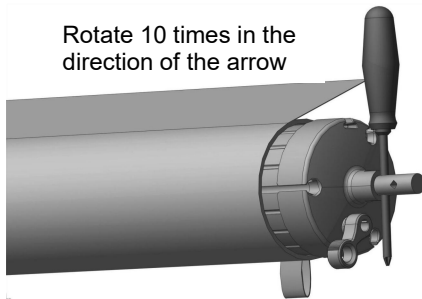

Figure E1
1. Weak winding of the awning scroll: Check if the torsion spring of the scroll is releasing force. The upward force method of the scroll spring is to insert a 6mm diameter screwdriver into the steel shaft hole at the end of the scroll, rotate it 10-13 times in the upward force direction indicated by the end cover, then insert the safety pin, and install the scroll back into the support rod. (Figure E1)